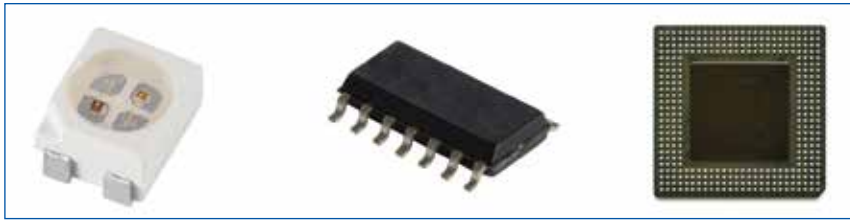

FIGURE 2. MSL 6 components usually look the same as other lower MSL components.
1. The MSD has a moisture sensitivity level (MSL) of 62. This is the highest (worst) MSL component specification to date, and J-STD-033 (in Table 5-1) states baking is mandatory and these components must then be soldered within the time limit specified on the manufacturer’s label. For these devices, baking is a must. However, applying this process to all MSDs just to be safe is overkill since it really only applies to MSL 6 components (**FIGURE 2**).